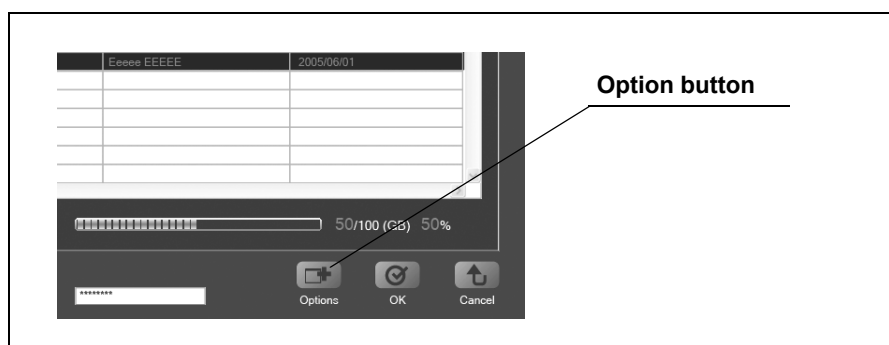

Figure 6.97
4. Click the [Option] button to display the DVD writing options screen (see Figure 6.97).